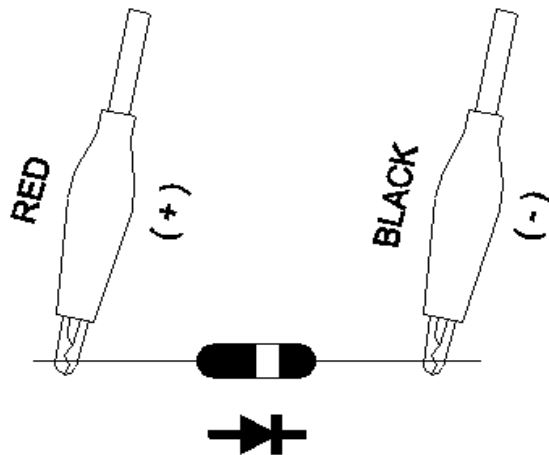

Fig. 2
- 5)a. When connected with polarity as shown in Fig. 2, a forward current flow is established and the approx. Diode Forward Voltage (VF) values in volt will display on the display reading. If the diode under test is defective, ".000" or near ".000" value (short circuit) or " 1 " (open circuit) will be displayed.